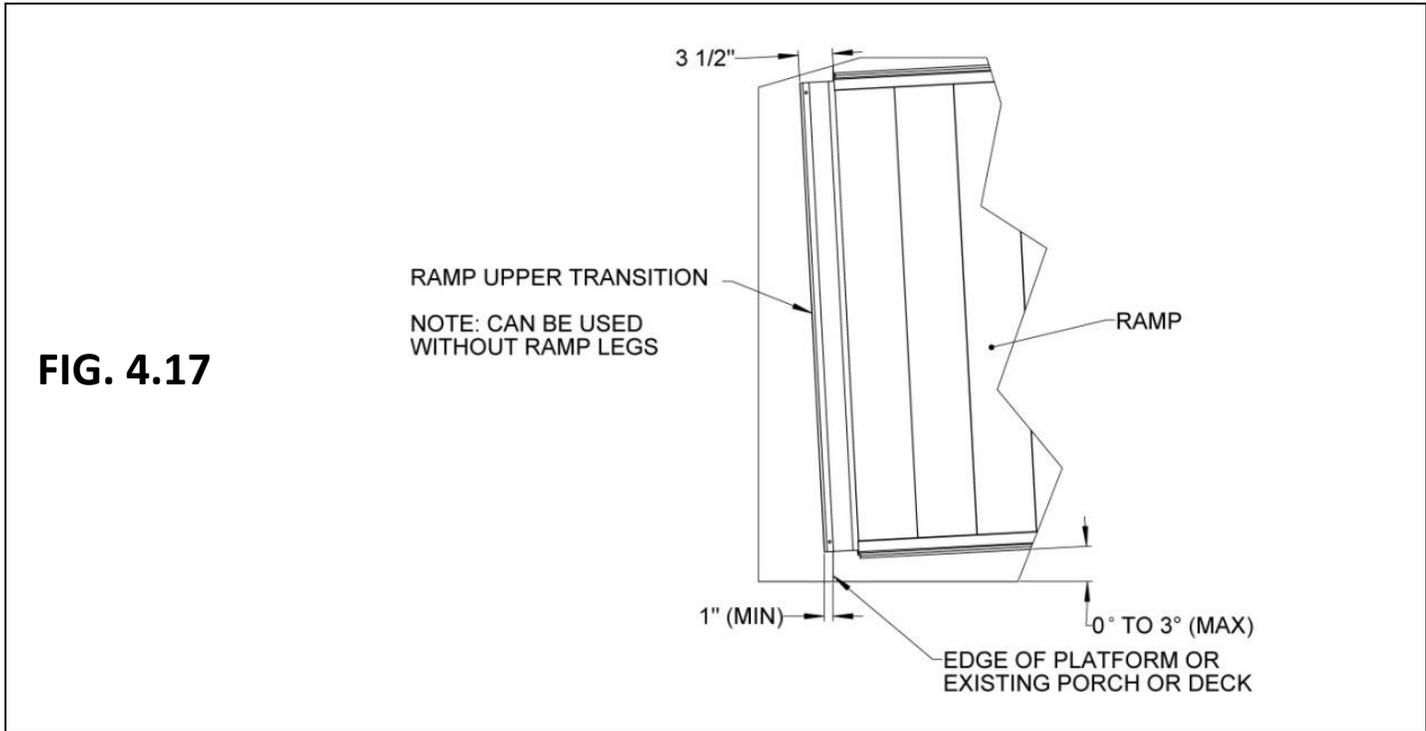

FIG. 4.17
4.8.1. Angles up to approximately 3-degrees can be accommodated using the Ramp Upper Transition if it overlaps the surface of the platform, porch, or deck by at least 1" (FIG. 4.17).